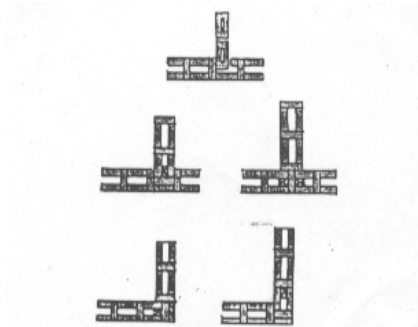

Fig 2
- L and T corners in wall must be constructed as illustrated below. (see fig 2)